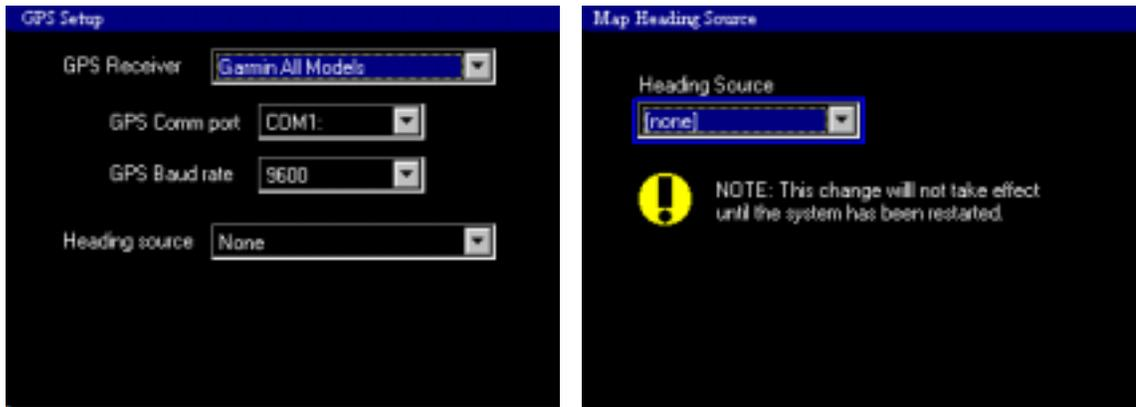

FIGURE 17: GPS Setup and Map Heading Source for Track
SYSTEM→DEVICES→GPS→SETTINGS (see Figure 17)
3. Press **Enter** and continue to use the Enter button to return to the DEVICES menu and select Map Heading, this will bring up the Map View Heading Source page (Figure 17).